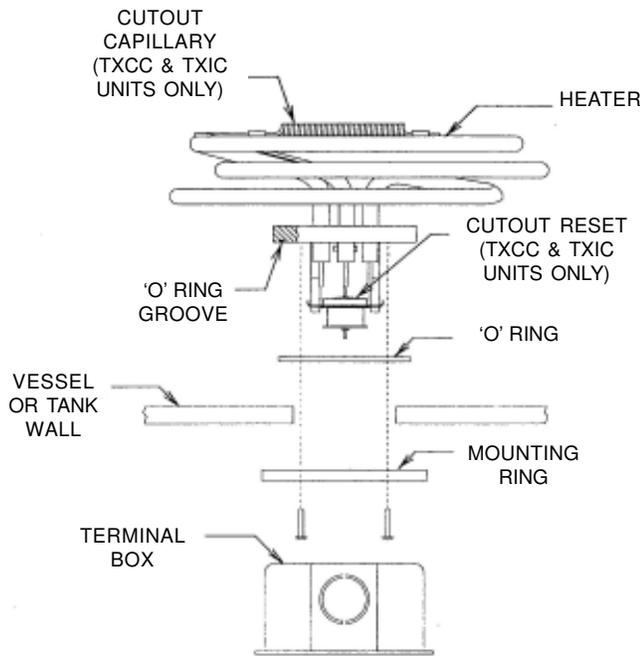

FIGURE 1 - INSTALLATION DIAGRAM
8.0 Refer to Figure 1 for installation details. Note that the heater utilizes an "O" Ring to provide a liquid tight seal. Ensure that the contact surfaces are clean.